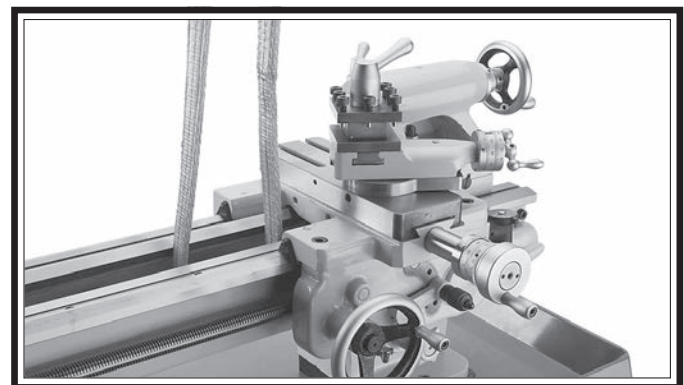

Figure 10. Tailstock, carriage, and one of the lifting straps in position for lifting the lathe.
4. Wrap one lifting strap around the bed connector between the ways and next to the saddle (see **Figure 10**), then attach it the forklift.